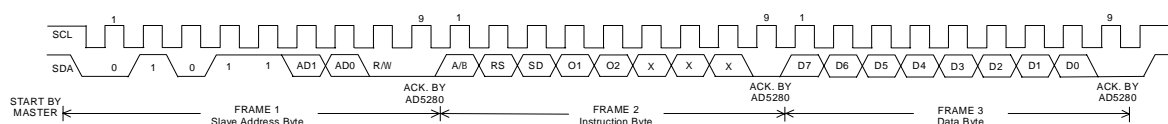
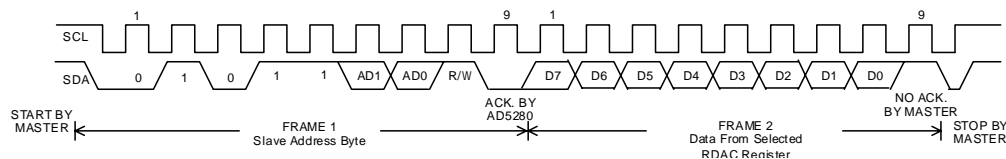

Figure 2. Writing to the RDAC Register
Figure 3. Reading Data from a Previously Selected RDAC Register
Referring from Figures 2 and 3, the first byte of AD5280/AD5282 is a Slave Address Byte. It has a 7-bit slave address and a  $R/\bar{W}$  bit. The 5 MSBs are 01011 and the following
1. The master initiates data transfer by establishing a START condition, which is when a high-to-low transition on the SDA line occurs while SCL is high, Figure 2. The following byte is the Slave Address Byte which consists of the 7-bit slave address followed by an  $R/\bar{W}$  bit (this bit determines whether data will be read from or written to the slave device).
2. A Write operation contains an extra Instruction Byte more than the Read operation. Such Instruction Byte in Write mode follows the Slave Address Byte. The MSB of the Instruction Byte labeled A/B is the RDAC sub-address select. A “low” select RDAC1 and a “high” selects RDAC2 for dual channel AD5282. The 2nd MSB RS is the Mid-scale reset. A logic high of this bit moves the wiper of a selected RDAC to the center tap where  $R_{WA}=R_{WB}$ . The 3rd MSB SD is a shutdown bit. A logic high causes the RDAC open circuit at terminal A while shorting wiper to terminal B. This operation yields almost a zero Ohm in rheostat mode or zero volt in potentiometer mode. This SD bit serves the same function as the  $\overline{SHDN}$  pin except it reacts in active low. The following two bits are O2 and O1. They are extra programmable logic output that users can make use of them by driving other digital loads, logic gates, LED drivers, and analog switches, etc. The 3 LSBs are DON'T CARE. See Figure 2.
condition, Figure 2. In Read mode, the master will issue a No Acknowledge for the 9th clock pulse (i.e., the SDA line remains high). The master will then bring the SDA line low before the 10th clock pulse which goes high to establish a STOP condition, Figure 3.